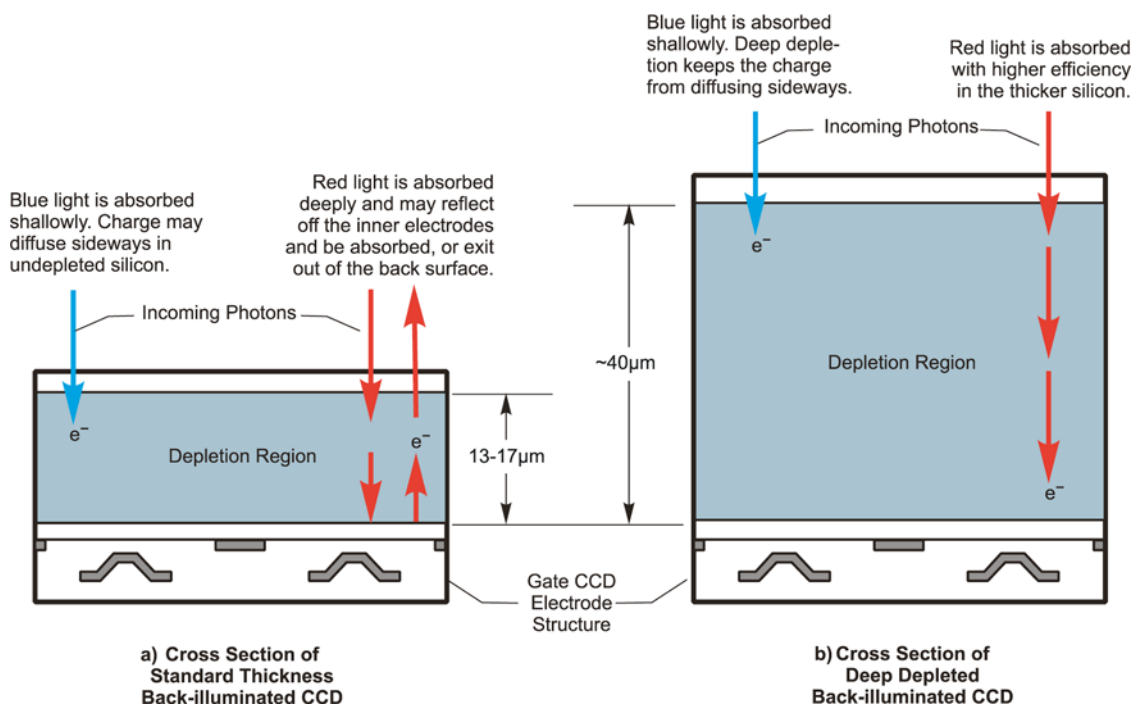

FIG. 5 Cross-Sections of Back-Illuminated (a) and Back-Illuminated Deep Depletion (b) Devices
DISCUSSION—Both front-illuminated and back-illuminated CCDs can be manufactured with a deep depletion process to enhance the NIR response; however, such devices cannot be operated in AIMO and are also more susceptible to cosmic rays. A back-illuminated deep depletion CCD will have reduced etaloning effects that are typically observed in back-illuminated devices exposed to NIR signals (see Fig. 5).
**etaloning,  $n$** —a phenomenon by which constructive and destructive interference fringes are produced in a back-illuminated CCD caused by internal reflections between the two parallel surfaces of the CCD. Typically BI CCDs experience etaloning effects when subjected to NIR signals (see Fig. 5).